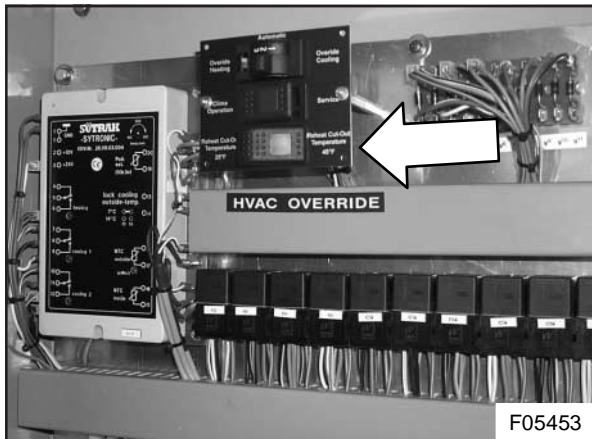

Figure 4: Triple switch HVAC override panel installation
- 3) Install the override switch and the service switch in the appropriate slots of the new triple switch HVAC override panel. Reconnect the plugs to the switches. Install the blanking plate in the reheat cut-out switch from the parts list. Install the switch in the remaining slot as shown in Figure 4. Secure the new panel to the supports.